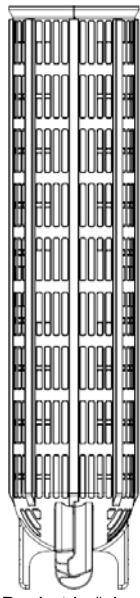
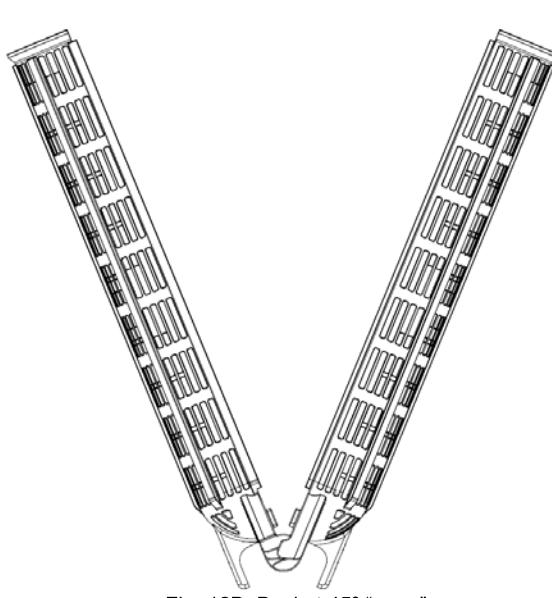

Fig. 12A: Basket in "closed" position
Fig. 12B: Basket 45° "open"
- 2.5.1.7.3 Pivot basket halves away from each other. This will allow bag to be easily removed from basket. Remove and properly dispose of used filter bag. (Note: Hinge is designed so that basket can be fully opened and will not allow halves to disengage.) (See fig. 12A and fig. 12B.)